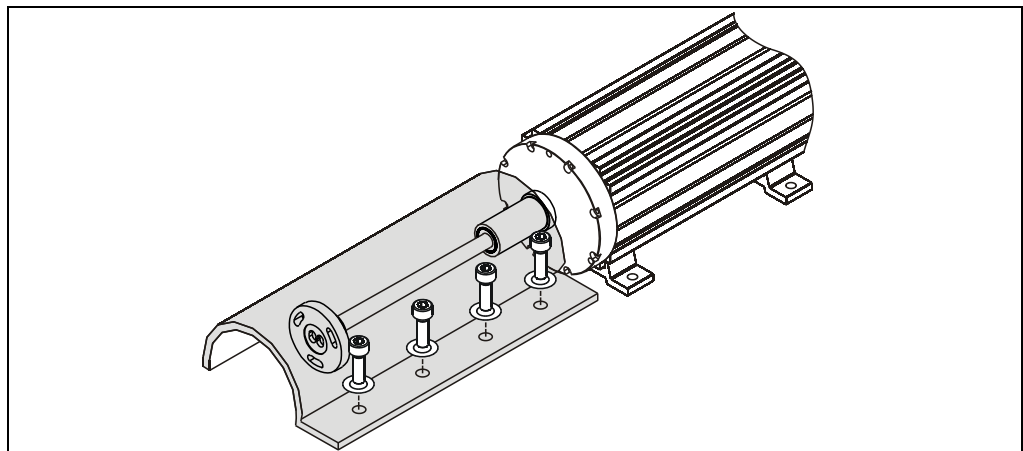

Figure 4: Mounting example protective cover
- If splashing water, shavings, hot metal particles and similar can not be excluded, an additional measuring axle protection must be used, see Figure 4.